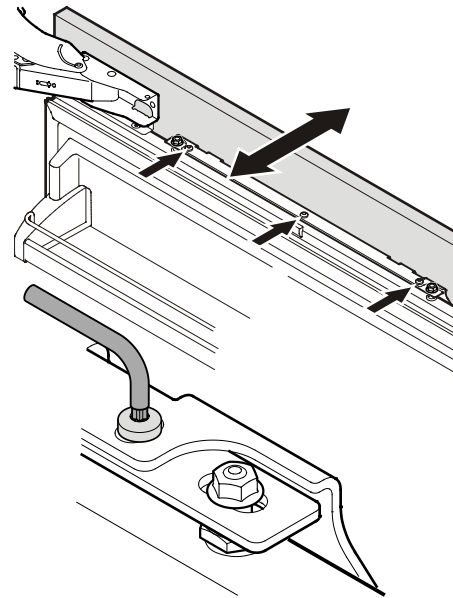

Figure 36
10. Loosen the three screws on the top of the attachment bracket, align the panel as shown in **Figure 36** and tighten the screws. This can also be done with the lower attachment bracket.